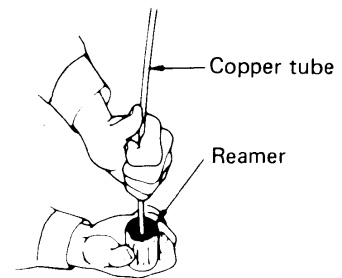

Fig. 24
**NOTE** : When reaming, hold the copper tube end downward and be sure that no copper scraps fall into the tube. Fig. 24